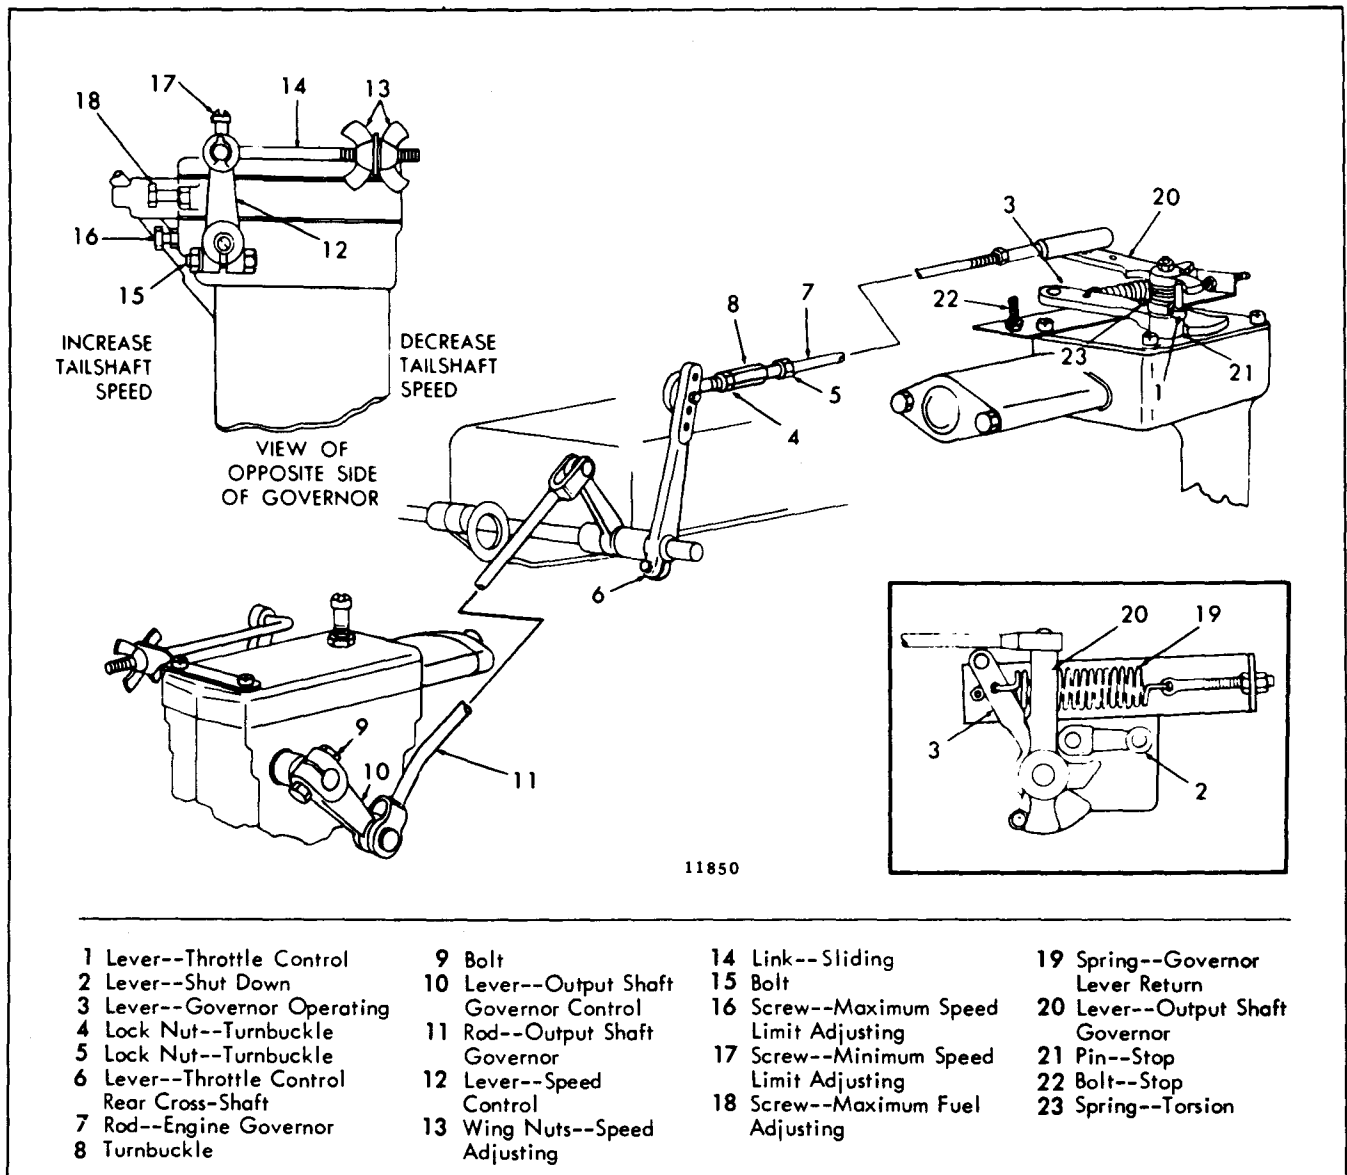

FIG. 1 - Hydraulic Output Shaft Governor and Linkage (Type A)
The output shaft governor is connected to the engine governor by control rods and levers (Figs. 1 and 2). The control rod end ball joints are sealed assemblies and do not require lubrication. However, the throttle control shaft bearings should be lubricated periodically with all purpose grease through the grease
In some types of operation, such as laying of structural steel, it is desirable to operate the unit with a very low output shaft speed. This speed could be so low that the output shaft governor ball head assembly would not actuate the governor pilot valve and spring seat assembly. In such applications, the engine governor operating lever (6), Fig. 1, or the remote throttle control lever (1), Fig. 2, used as an overrule lever, can be moved toward the idle speed position sufficiently to provide the desired low output shaft speed. Output shaft speeds down to zero can be obtained through this type of engine governor control. The engine governor would maintain control unless the output shaft speed increased to the speed setting of the output shaft governor.
Adjustments (Type A - Fig. 1)
The engine governor throttle control lever (Fig. 1) is pinned to the throttle shaft. The engine governor operating lever is mounted below the throttle control lever and rides on the throttle shaft boss on the governor cover. The output shaft governor lever is mounted above the throttle control lever and is retained on the shaft by a snap ring. A stop pin, pressed into the throttle control lever, transmits movement of the output shaft governor lever and/or engine governor operating lever through the throttle control lever to the injector racks. The torsion spring, used to retain the throttle control lever stop pin against the output shaft governor lever, yields to permit the governor operating lever to move the throttle control lever toward the idle position, regardless of the position of the output shaft governor control lever. A slot in the underside of the governor cover hub limits the travel of the throttle control lever in both the maximum and minimum speed positions.
1. Connect the linkage to the governor operating lever (Fig. 1) and check the total travel of the lever. The lever should move to the stop bolt in one direction and the governor lever return spring should move the lever, in the other direction, until the throttle control lever reaches the end of its travel.